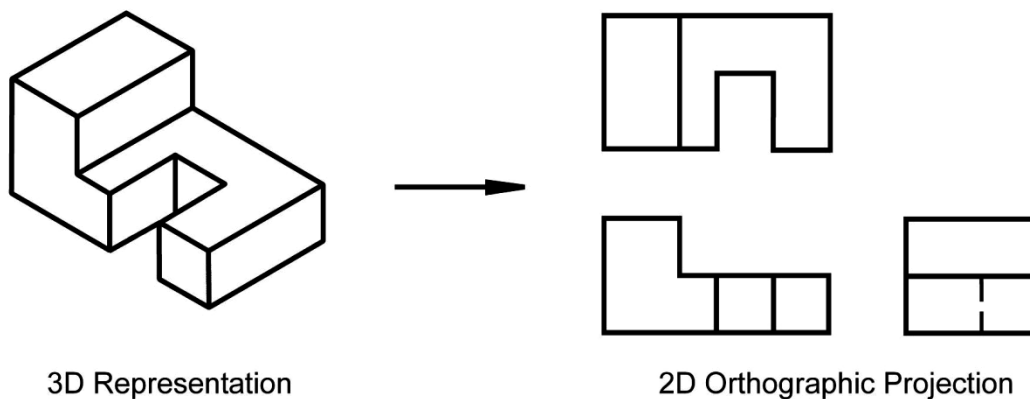

Figure 2.1-1: Orthographic projection.
**An orthographic projection enables us to represent a three-dimensional object in two dimensions** (see Figure 2.1-1). An orthographic projection is a drawing that shows different sides of an object on a sheet of paper (i.e. in two dimensions). The drawing is formed by projecting the edges of the object onto a projection plane from different viewing perspectives. Orthographic projections allow us to represent the shape of an object usually using three views; however, a part may be represented completely with only one or two views. These views together with dimensions and notes are sufficient to manufacture the part.
Label the five remaining principle views with the appropriate view name. Figure 2.1-1 indicates the six principle viewing directions as well as their associated view names.